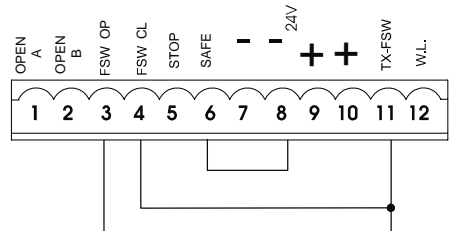

Fig. 26
N.B. if safety devices are not used, jumper connect the terminals as shown in fig 26.
NB.: If no opening safety devices are connected, jumper connect inputs **FSW OP** and **-TX FSW** (fig. 26).
NB.: If no closing safety devices are connected, jumper connect terminals **FSW CL** and **-TX FSW** (fig. 26).
NB.: If edge safety devices are not connected, jumper connect the **SAFE** and **-** inputs (fig. 26).